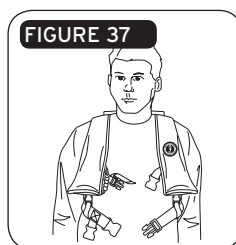

FIGURE 37
6. Unfasten the crotch strap buckle E, and put the LP on as shown (Figure 37).